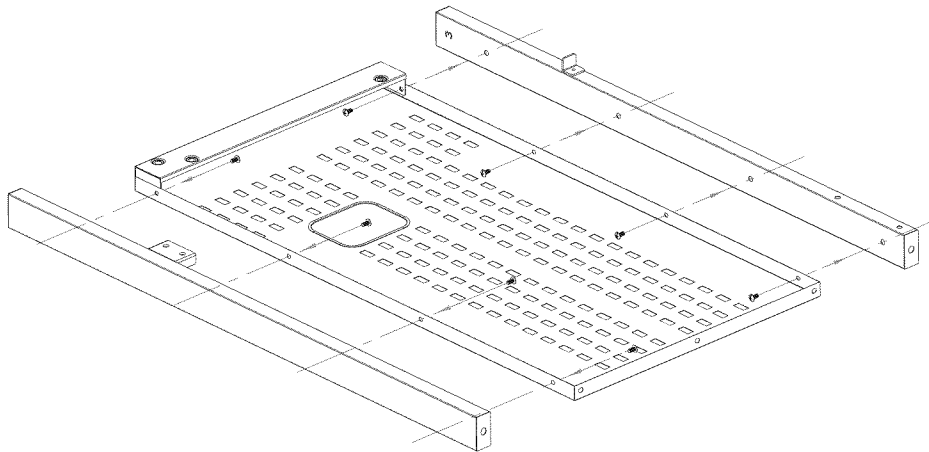

Fig. 2
1. To attach left panel, align left leg holes with holes on left panel (marked “L”) as shown in **Fig. 2**.
2. Attach left-front leg (marked “Left Front”) and left-back leg (marked “Left Back”) to left panel with eight (8) M5 x 10 screws as shown in **Fig. 2**.